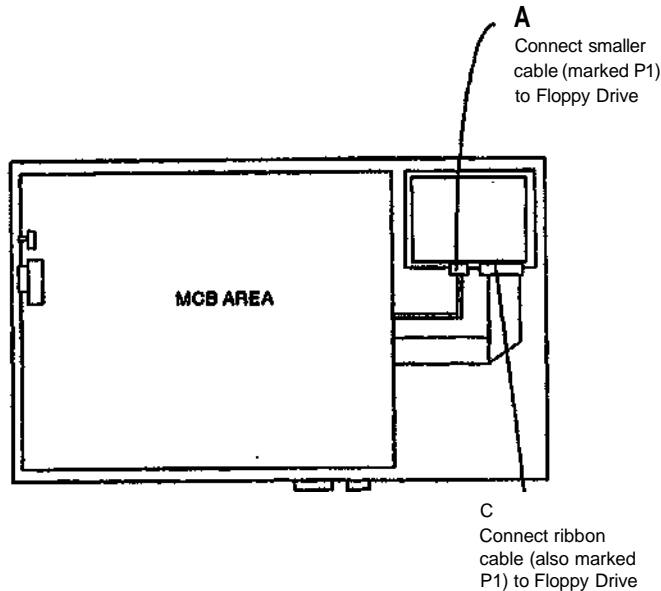

Figure 14 Routing the Floppy Drive Harnesses
29. (Figure 14): Route the Floppy Drive harnesses.